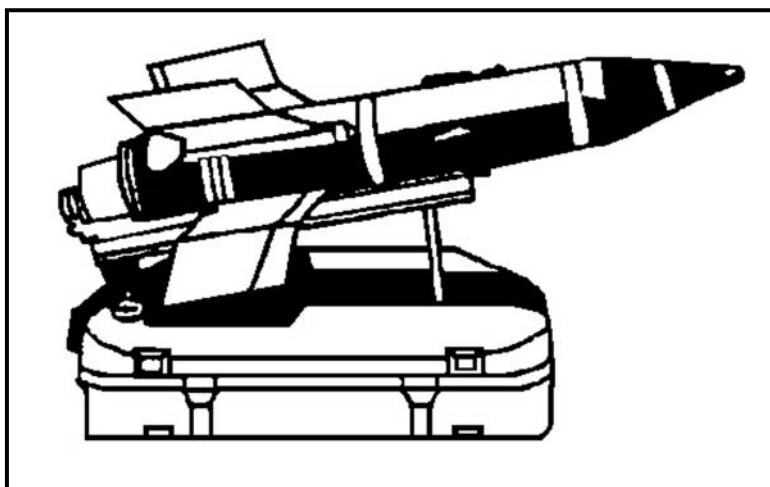

Figure H-16. Russian ATGM launcher, AT-3.
c. **Russian ATGM Launcher, AT-3** (Figure H-16).